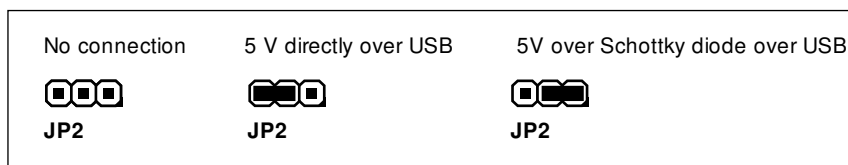

Figure 2.2: Possible connections of **JP2**
**JP2** controls how the power supply of the circuit that should be programmed (connected to **CONN1**). Figure 2.2 shows the possible connections: